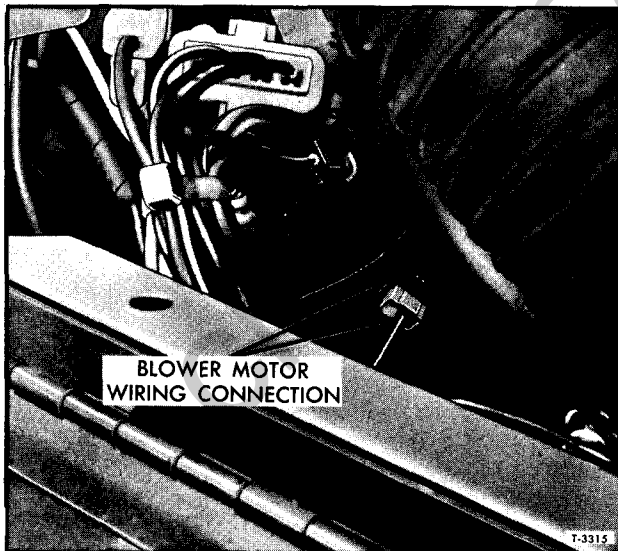

Figure 34—Blower Motor Wiring Connection
2. Pull motor switch lead at quick-disconnect terminal (fig. 34).